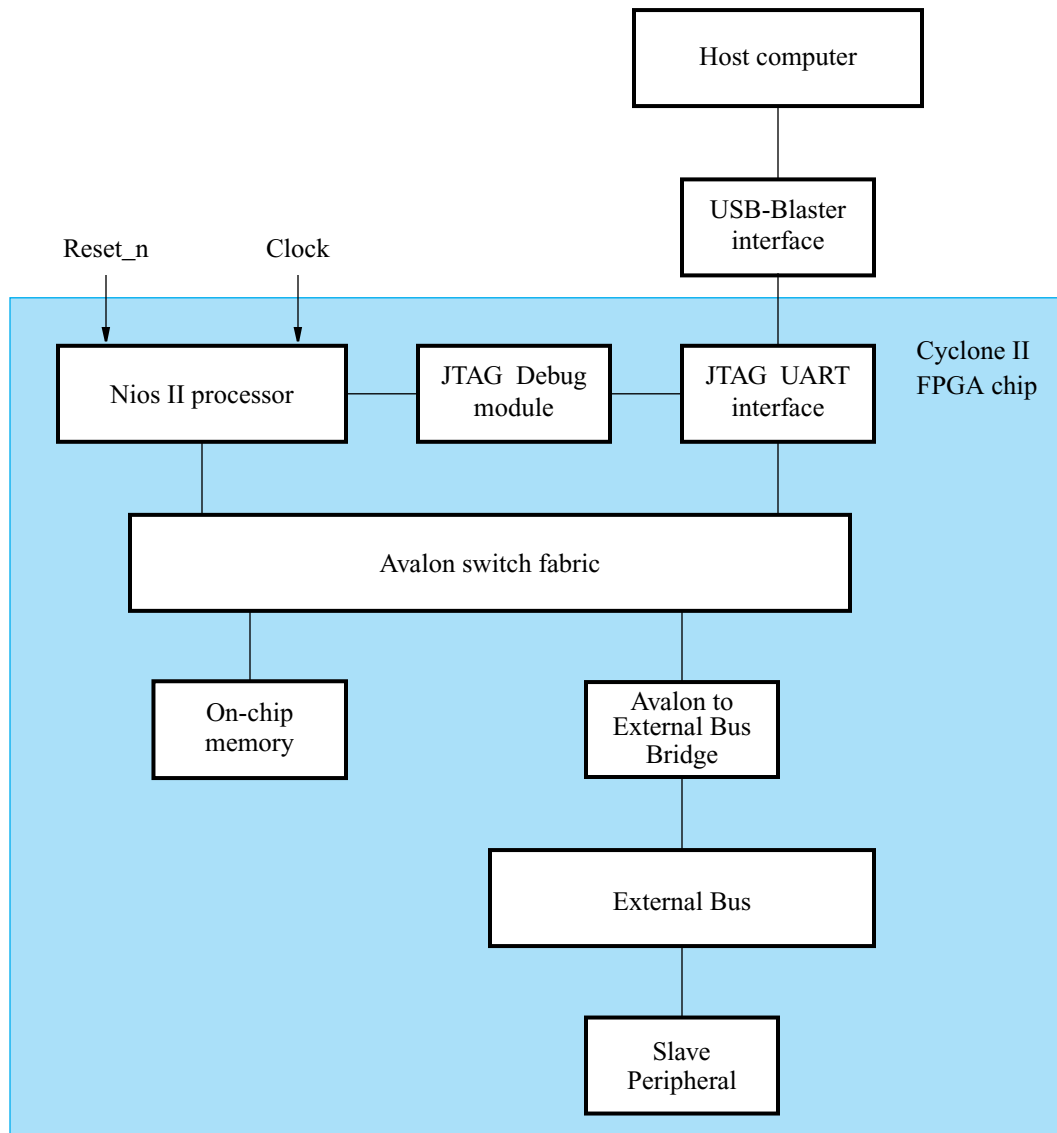
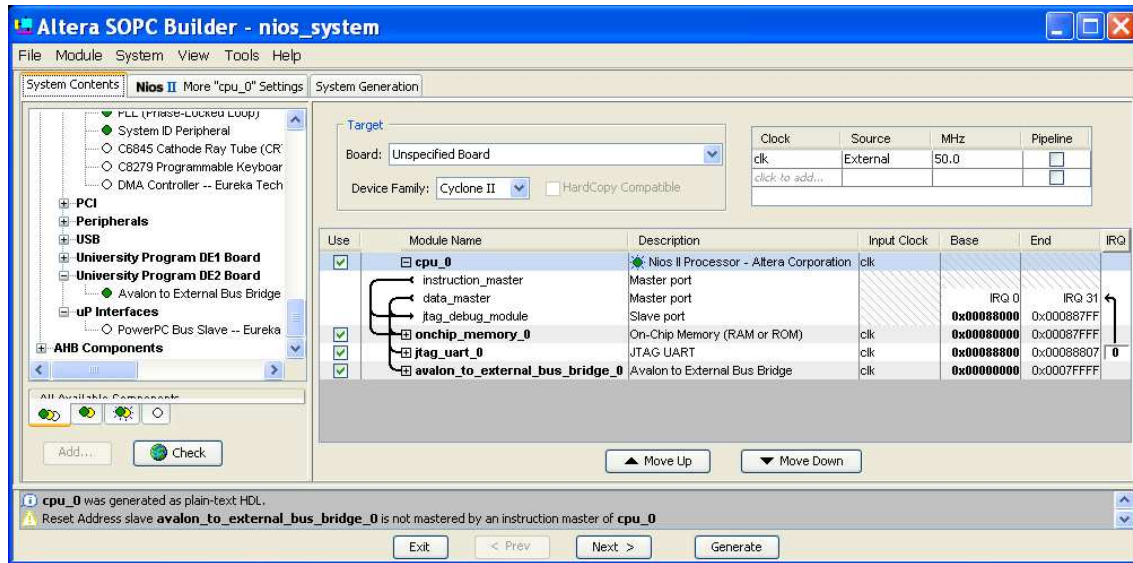

Figure 2. The desired Nios II system
Figure 3. The Nios II system specified in the SOPC Builder.
Figure 2 indicates the system that we wish to design and implement. The part of the system that consists of a Nios II/s processor, a JTAG UART, an on-chip memory block and an Avalon to External Bus Bridge can be generated using the SOPC Builder. This should produce the system given in Figure 3. The slave peripheral will be a Verilog/VHDL module which you will design. The Avalon to External Bus Bridge connects the previously discussed external bus to the Avalon Switch Fabric of the Nios II system. The switch fabric is the main interconnection network for peripherals in a system generated by the SOPC Builder.
Once the system in Figure 3 has been generated, modify the Verilog/VHDL module, `Peripheral_on_External_Bus` to connect it to the Avalon to External Bus Bridge signals. Also, modify this module such that it contains four
16-bit registers. Each of these registers should be mapped to one quarter of the address space assigned to the Avalon to External Bus Bridge by the SOPC Builder. Use the 7-segment displays *HEX3 – 0* to display the contents of these registers. Since only one register can be displayed at one time on the 7-segment displays, use two toggle switches, *SW1* and *SW0*, to choose which register to display. These modules, in addition to the modules generated by the SOPC Builder, should implement the desired system in Figure 2.
4. From the **System** menu, select **Auto-Assign Base Addresses**. You should now have the system shown in Figure 3.
1. Create a new project called *Lab5\_Part2*. Use the same SOPC Builder project settings as in Part 1 of this exercise, and generate a Nios II system that corresponds to Figure 3.
2. Use the SOPC Builder to generate the system in Figure 3, but choose the address range of 1024 Kbytes for the Avalon to External Bus Bridge component. Note that this will change the base addresses that the SOPC Builder will auto-assign to the components of the system.